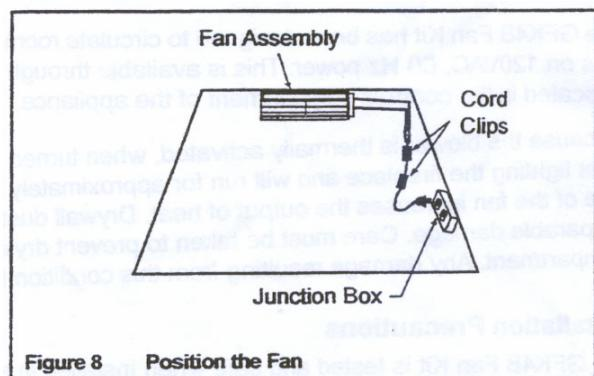

Figure 8 Position the Fan
**Position the thermodisc with mounting bracket and magnet to the top of the blower compartment. Variable speed control mounts to the bottom pan (self-adhesive). Some models may allow for alternate mounting through front louver. Plug the cord into the receptacle labeled "AUX/REM" on the junction box (see Figure 8). The "FAN" outlet does not have constant power and is only used in OEM installations.**